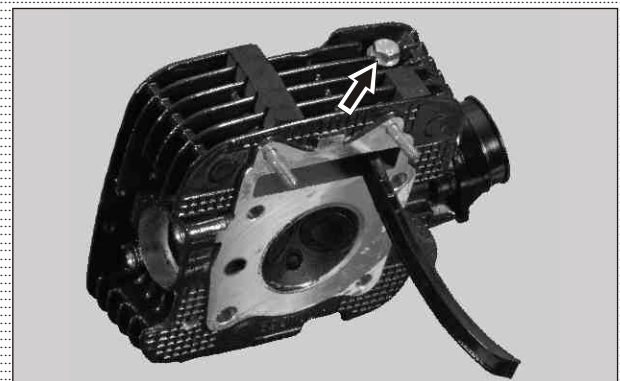

Fig. 3.127
- Remove bolt cam chain tensioner and remove the tensioner cam chain. (Fig. 3.127)